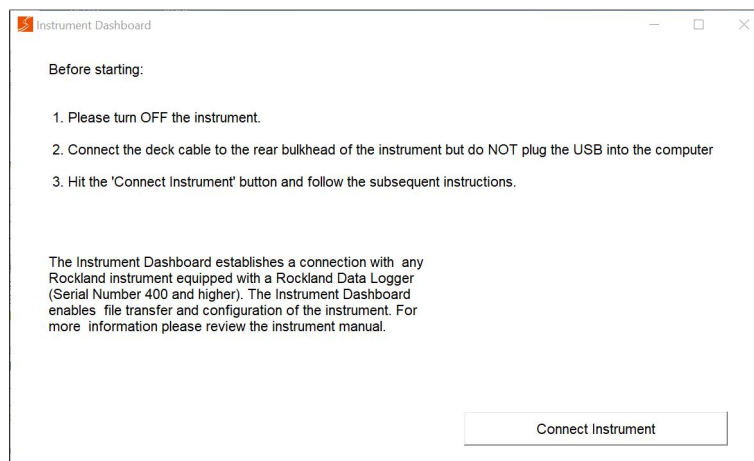

Figure 37: Connecting to the instrument with Zissou Essentials.
5. Hit the “Connect Instrument” button (Figure 37).